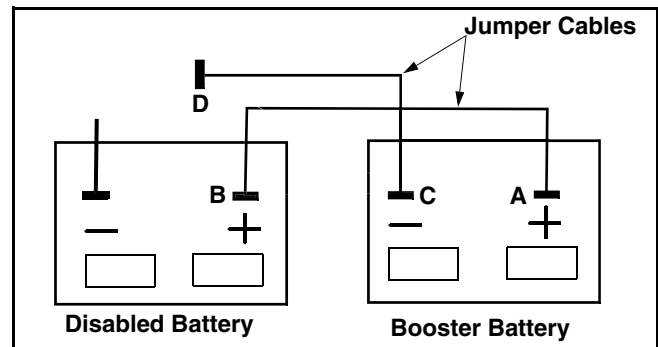

Figure 14
- Connect positive (+) jumper cable to booster battery positive (+) post (A). See Figure 14.
- Connect the other end of positive (+) jumper cable to the disabled vehicle battery positive (+) post (B).
- Connect negative (-) jumper cable to booster battery negative (-) post (C).
- Connect the other end (D) of negative (-) jumper cable to a metal part of the disabled machine frame away from battery.